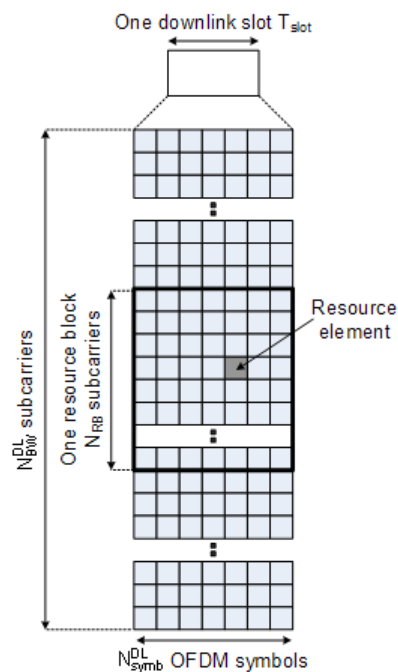

Fig. 3-5: Downlink Resource Grid
figure 3-5 shows the structure of the downlink resource grid for the duration of one downlink slot. The available downlink bandwidth consists of N_{BW}^{DL} subcarriers with a spacing of $\Delta f = 15$ kHz. In the case of multi-cell MBMS transmission, a subcarrier spacing of $\Delta f = 7.5$ kHz is also possible. N_{BW}^{DL} can vary in order to allow for scalable bandwidth operation up to 20 MHz. Initially, the bandwidths for LTE were explicitly defined within layer 1 specifications. Later on a bandwidth agnostic layer 1 was introduced, with N_{BW}^{DL} for the different bandwidths to be specified by 3GPP RAN4 to meet performance requirements, e.g. for out-of-band emission requirements and regulatory emission limits.
Data is allocated to the UEs in terms of resource blocks. A physical resource block consists of 12 (24) consecutive subcarriers in the frequency domain for the $\Delta f=15$ kHz ($\Delta f=7.5$ kHz) case. In the time domain, a physical resource block consists of DL $N_{\text{sym}b}$ consecutive OFDM symbols, see figure 3-5. $N_{\text{sym}b}^{DL}$ is equal to the number of OFDM symbols in a slot. The resource block size is the same for all bandwidths, therefore the number of available physical resource blocks depends on the bandwidth. Depending on the required data rate, each UE can be assigned one or more resource blocks in each transmission time interval of 1 ms. The scheduling decision is done in the base station (eNodeB). The user data is carried on the physical downlink shared channel (PDSCH). Downlink control signaling on the physical downlink control channel (PDCCH) is used to convey the scheduling decisions to individual UEs. The PDCCH is located in the first OFDM symbols of a slot.